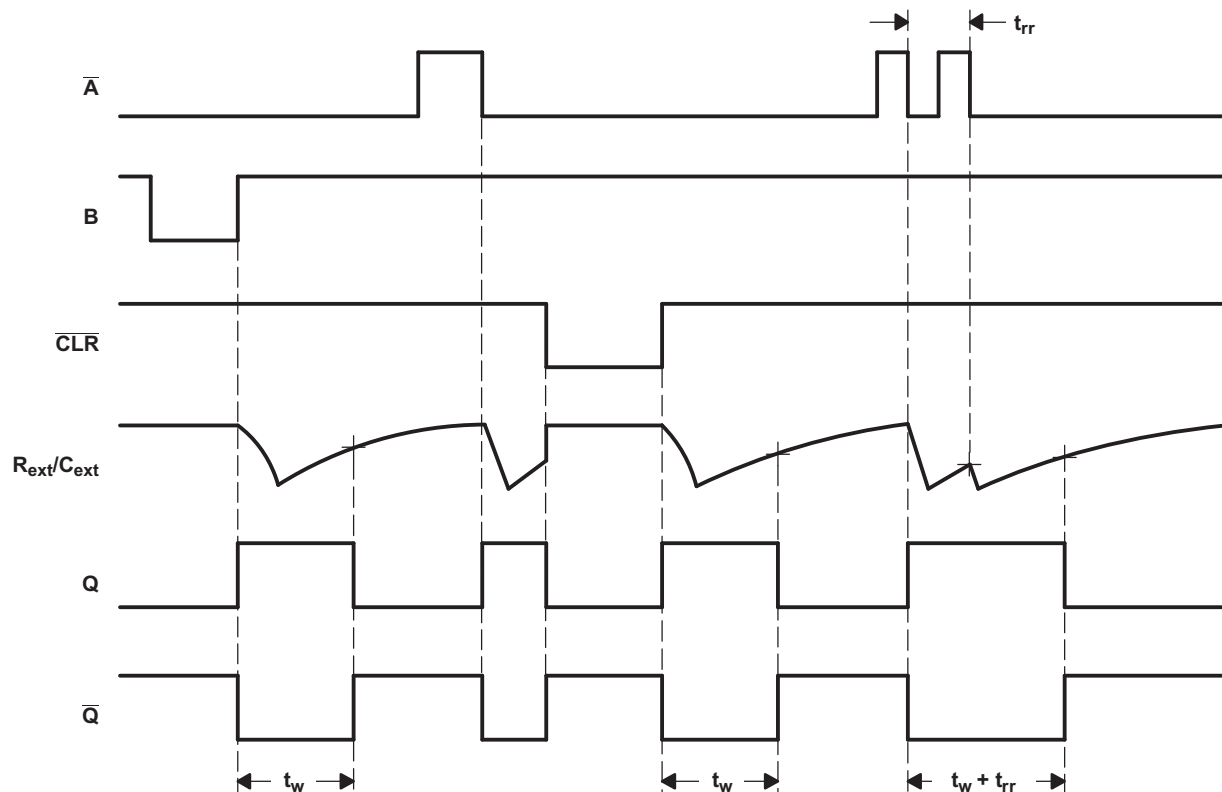

Figure 7. Input and Output Timing Diagram
Once triggered, the basic pulse duration can be extended by retriggering the gated low-level-active (\overline{A}) or high-level-active (B) input. Pulse duration can be reduced by taking \overline{CLR} low. The Figure 7 illustrates pulse control by retriggering the inputs and early clearing.